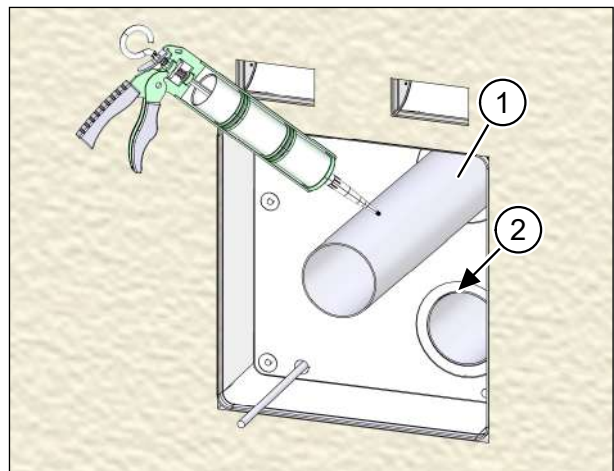

Fig. 35: Inserting and fixing the ventilation pipes
- ▶ Apply permanently elastic sealant to the outer skin of the ventilation pipes (item 1 in Fig. 35).
- ▶ Using a twisting motion, push the two ventilation pipes into the openings in the installation kit until they end flush with the inside of the installation kit (item 2 in Fig. 35).